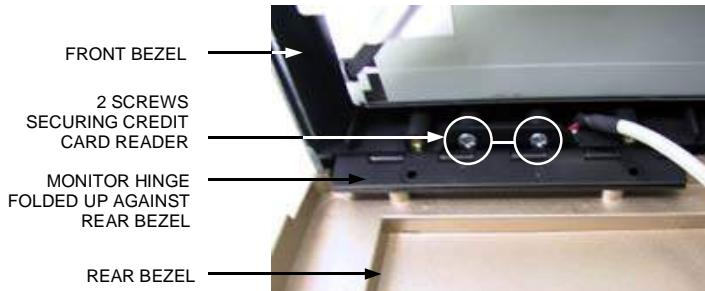

FIGURE 6 - CREDIT CARD READER SCREW LOCATION
8. Remove the 2 screws securing the credit card reader and remove the reader from the unit (see Figure 6).
2. Place the credit card reader back into the game (where you removed the old reader from), then resecure with the 2 screws you removed earlier (see Figure 6).